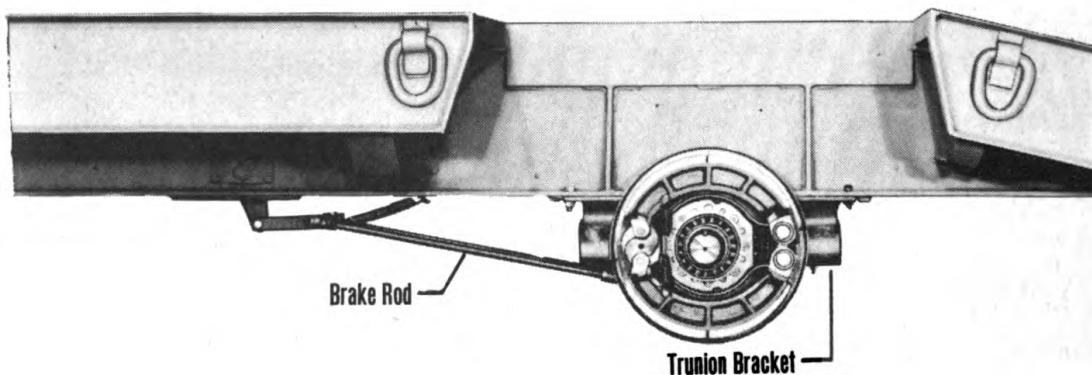

Figure 20—Rear Axle, with Outer Hub and Drum Removed
4. Disconnect the brake rods (figure 20) at slack adjusters on both sides of the trunnion brackets by removing cotter pins and sliding out the attaching clevis pins.